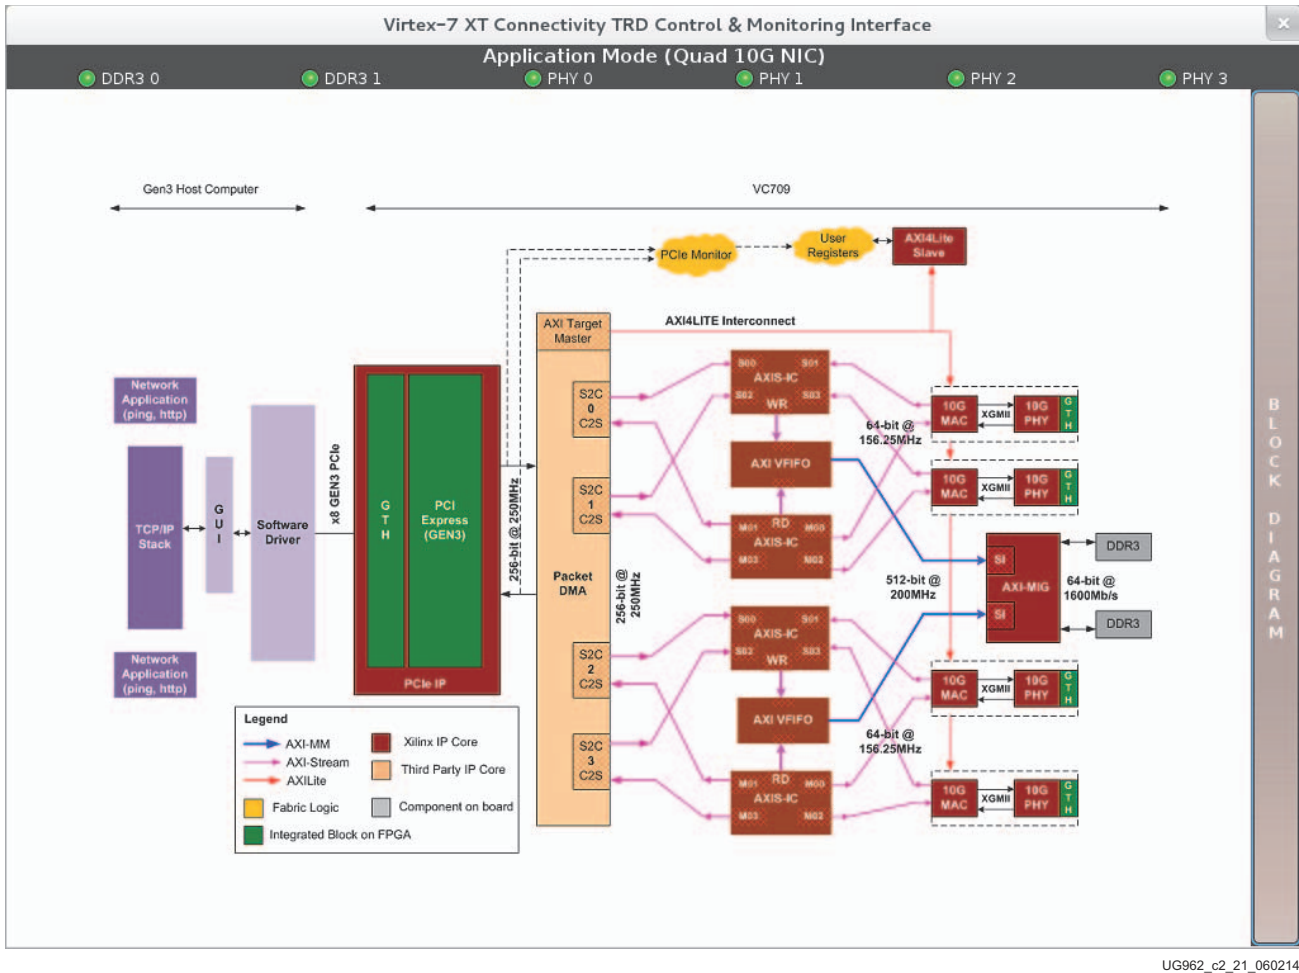

Figure 2-21: Access the Block Diagram
- Click the **Block Diagram** tab on the right side of the GUI to bring up the block diagram of the XT Connectivity TRD with the datapath highlighted for the selected mode. See Figure 2-21.